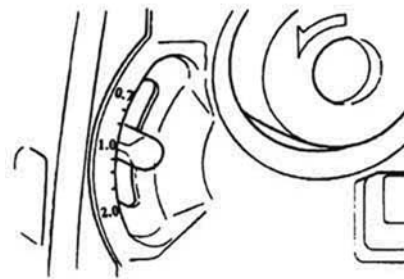

Fig. 42
① **Note:**
When the differential transport lever ⑨ stands at "1.0", that corresponds to a differential transport ratio of 1:1. Both toothed feed racks move at the same rate (Fig. 42).